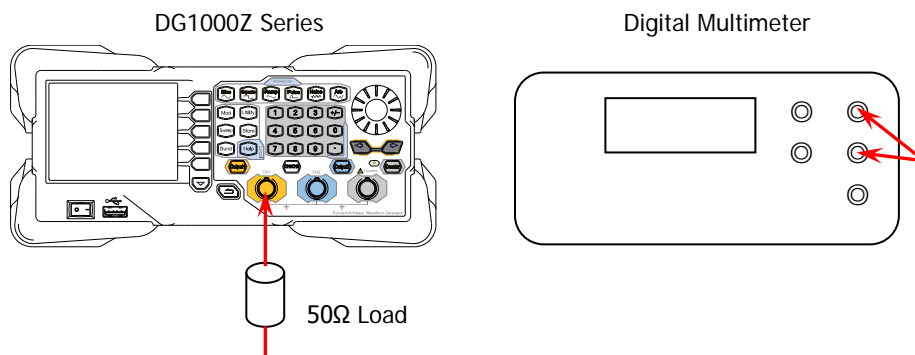

Figure 2-2 Connect DG1000Z and the Digital Multimeter via a 50Ω Load
1. Make sure that the environment temperature is between 18°C and 28°C and DG1000Z has been warmed up for at least 30 minutes. Connect the 50Ω load to the channel output terminal (take CH1 as an example; the test method is also applicable to CH2) of DG1000Z; connect the 50Ω load and the voltage input terminals of the digital multimeter using a BNC-Dual banana plug connecting cable as shown in Figure 2-2.